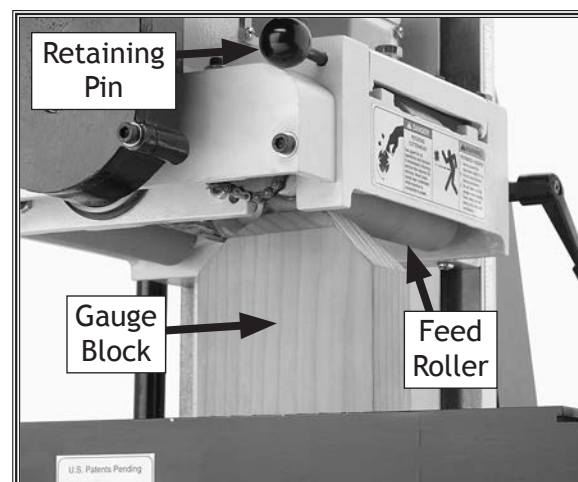

Figure 57. Gauge block placed under feed roller.
2. Pull the retaining pin out (see **Figure 57**), and set the chip deflector aside.
4. Place the finished block on the table, directly under one end of the infeed roller, as shown in **Figure 57**.
5. Lower the cutterhead housing so the infeed roller barely touches the gauge block the lowest end of the roller (see **Figure 57**).